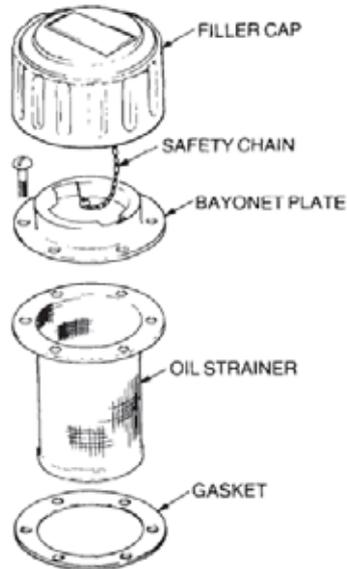

Figure 47 Filler Cap and Strainer Assembly
- c. Remove the cap and strainer assembly from the reservoir (Figure 47).